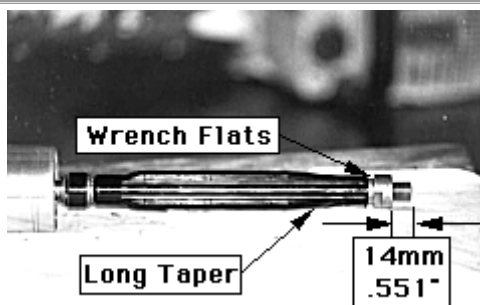

Fig 17
43. Install the spring guide on the fork cylinder with the long tapered end facing up. Install the lock nut and install by hand until it stops (the wrench flats should face down), **fig 17**. There should be at least 14 mm (.551 inch) of threads exposed above the nut.